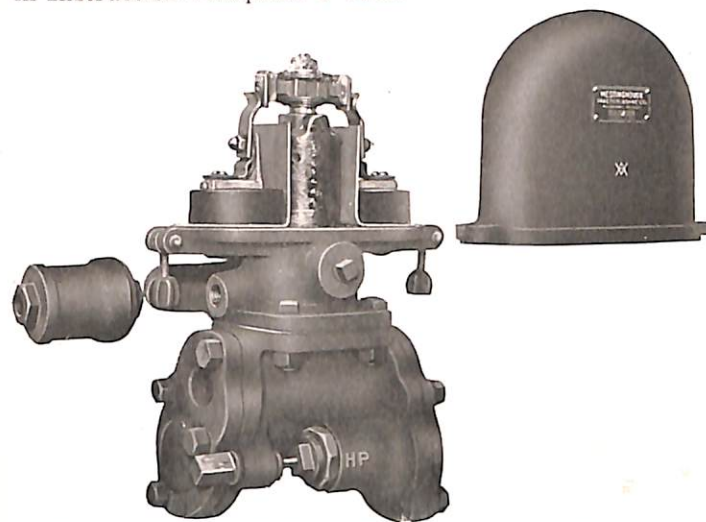

Fig. 14. Type J Electric Compressor Governor
2. The J Governor, Fig. 14, which is fully described in Instruction Pamphlet T-5042.